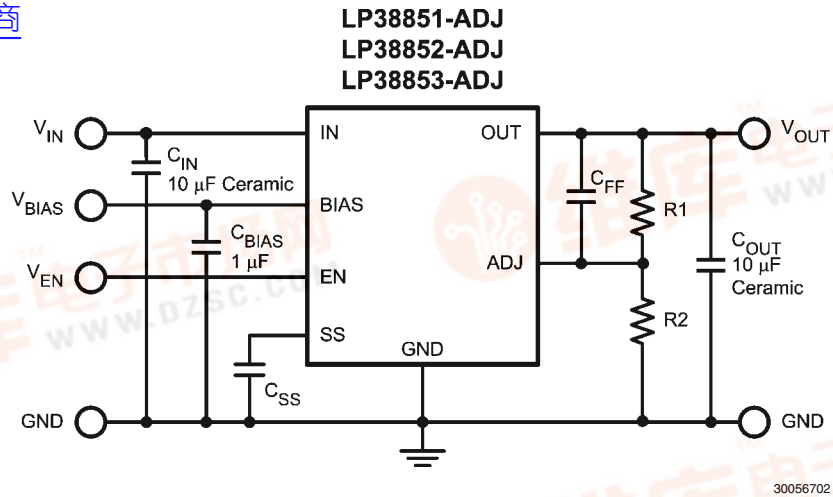

FIGURE 2. LP38851/52/53-ADJ Typical Application
Figure 2 shows a typical application schematic of the LP38853-ADJ. (Note the C_{SS} capacitor is connected to the (SS) soft-start pin). Next, we'll compare start up behavior without utilizing the soft-start feature versus start up behavior with a $0.01\mu F$ capacitor for C_{SS} .